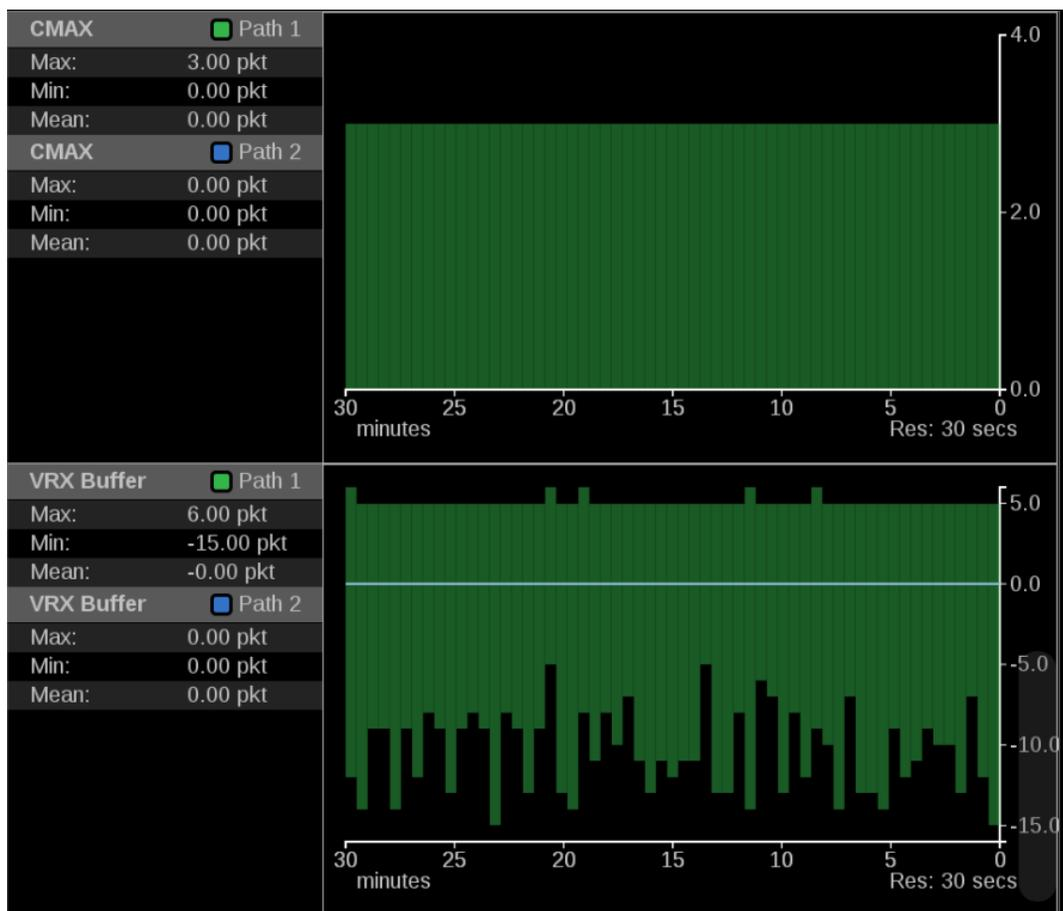

Figure 152: IP Graphs application – CMAX and VRX Buffer graph
- A network compatibility model to regulate the burst characteristics of senders, which promotes the compatibility with the switches. The **CMAX** section provides a trend graph for this type of modeling. (See Figure 152.)